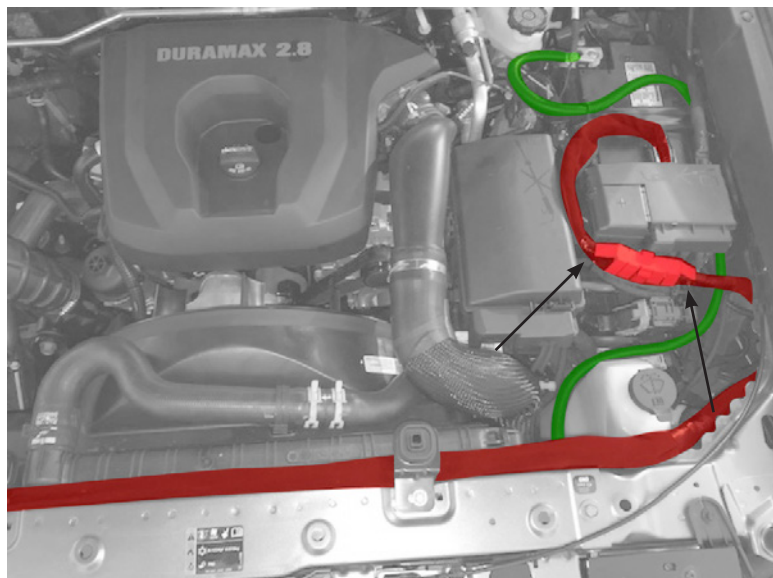

Figure 25: Positive (red) Negative (green)
24. Route positive and negative lines as shown (fig. 25).